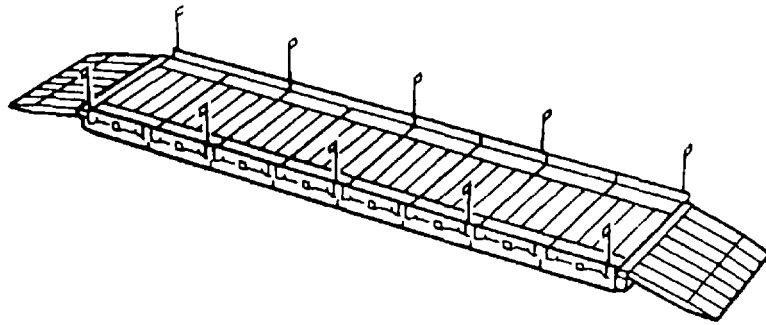

FIGURE 1-1 Single story MGB.
a. The Medium Girder Bridge (MGB) is a two girder deck bridge. The wide upper surfaces of the girders, and the deck units laid between them form a roadway 13 ft 2 in (4.0 m) wide. The girders can be constructed in two forms: a shallow single story construction as shown in Figure 1-1, or a deeper double story construction as shown in Figure 1-2. The double story can be reinforced by adding components of the Link Reinforcement Set (LRS) as shown in Figure 1-3; this permits longer Military Load Class (MLC) 70 bridges to be constructed.